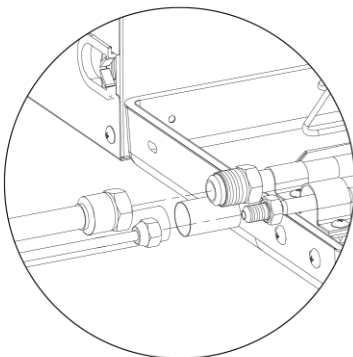

Fig.12
- (1) Remove pipe cover and pipe plug.
- (2) Direct the flare part of copper pipe to the center of screwed joint. Twist on the flare nut tightly by hand, as in Fig.12. (Make sure indoor pipe is correctly connected. Improper location of the center will prevent flare nut from being securely twisted. Thread of nut will get damaged if the flare nut is twisted forcibly.)